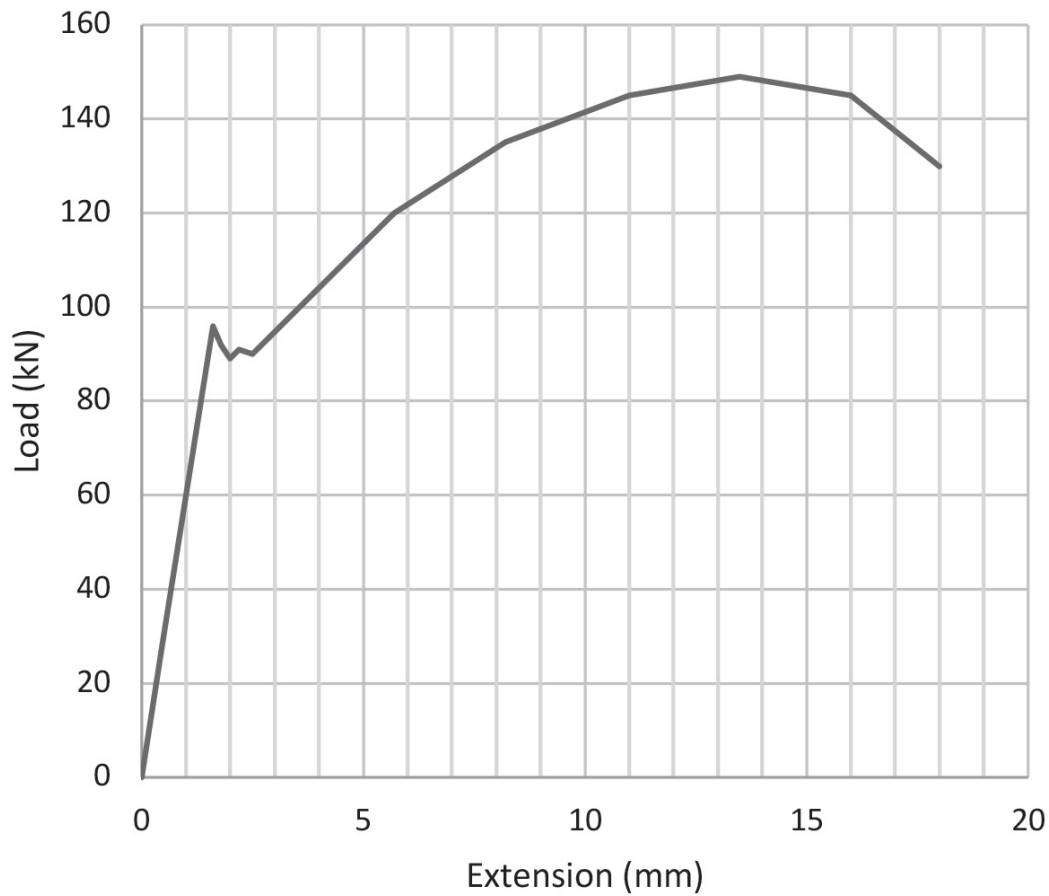

Figure 1
- c) Figure 1 shows the results of a tensile test.
Label Figure 1 to identify: